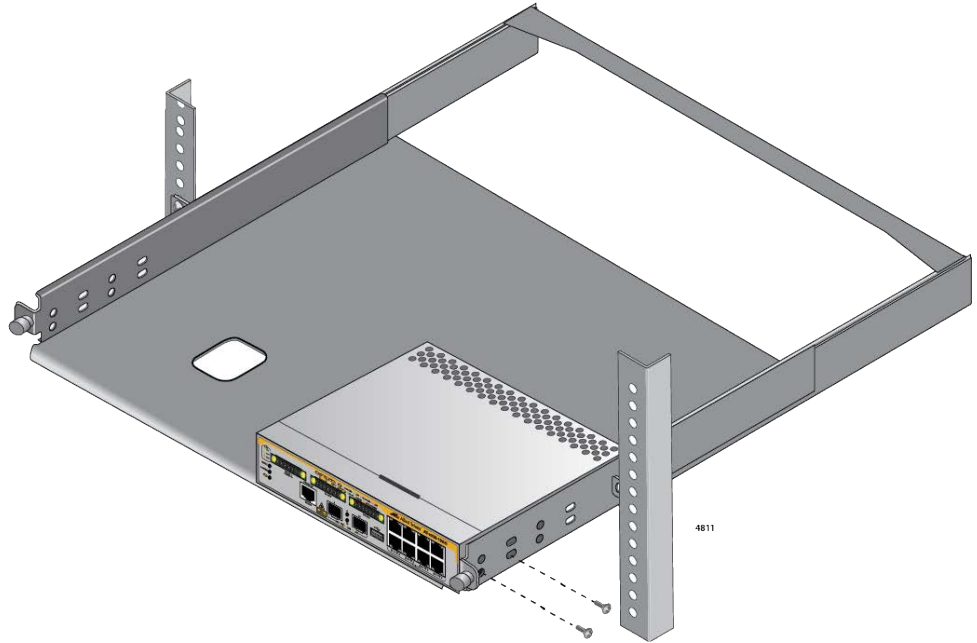

Figure 38. Securing the Device to the RKMT-J15 Bracket
5. Install two M4x6mm screws included with the RKMT-J15 to secure the device to the bracket. Refer to Figure 38.